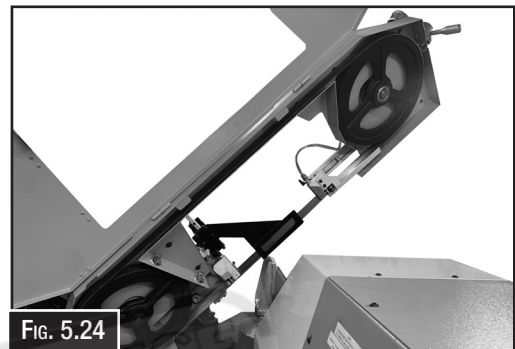

Fig. 5.24
2. Raise the head of the band saw to give better access, then open the wheel access cover. (Fig. 5.24). Ensure the cover is latched so it will not drop.